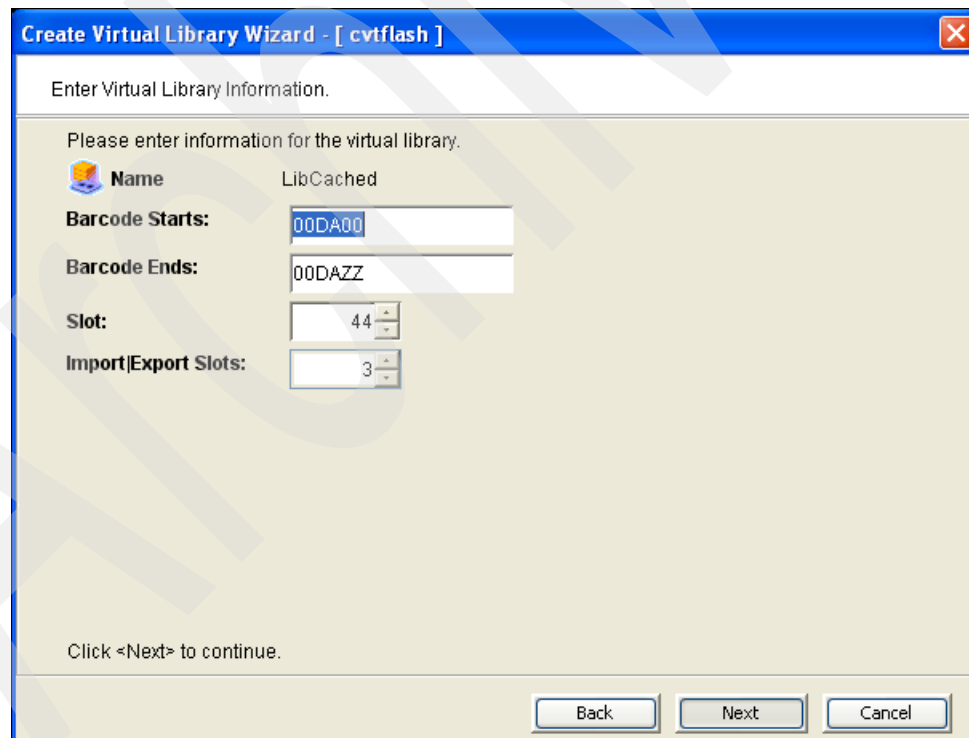

Figure 6-96 Cached virtual library creation: specify barcode range and slot attributes
9. If you purchased the tape duplication feature, refer to 7.7, “Tape duplication” on page 276. If you did not purchase the tape duplication feature, go to step 11. See Figure 6-96 on page 240.
10. Specify additional library attributes as shown in Figure 6-96. Click **Next**.
To generate standard barcodes specify the barcode start and end range with exactly six characters as shown in Figure 6-96 on page 240.